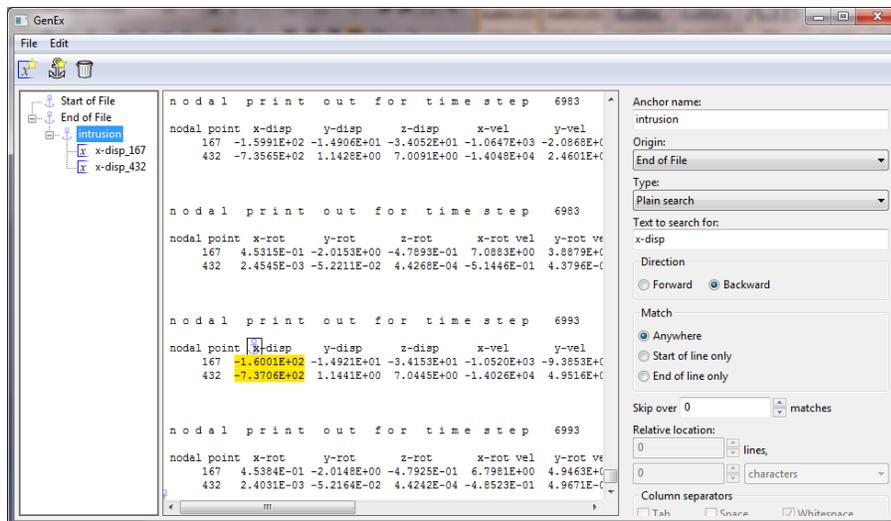

Figure 6: Changing anchor origin and search direction for backward search in GenEx
13. To create GenEx responses for extracting nodal displacements, similar steps can be followed with *nodout* being the input data file. The sample *nodout* file (sample_nodout) provided with the example can be used to create the required genex input file. An anchor can be created to search for text 'x-disp'. By default, this anchor is created under *Start of file* anchor with *forward* search direction and hence the search results in locating first occurrence of 'x-disp' within *nodout* data file. Since last reported displacement values are required, the *anchor origin* can be changed to 'End of file' with *backward* search direction as shown in figure 6. Entities for x-displacement of both nodes (432 and 167) can be defined under this anchor.